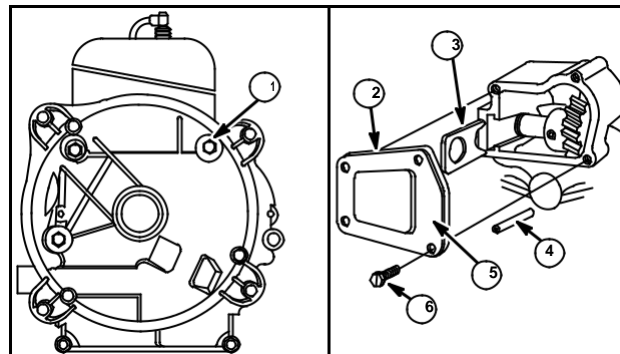

Fig. 14
3. After the crankcase cover and gasket are in place, install cover screws. Be sure that screw in hole (1) Fig. 14, has nonhardening sealant, such as Permatex II, on threads of screw.